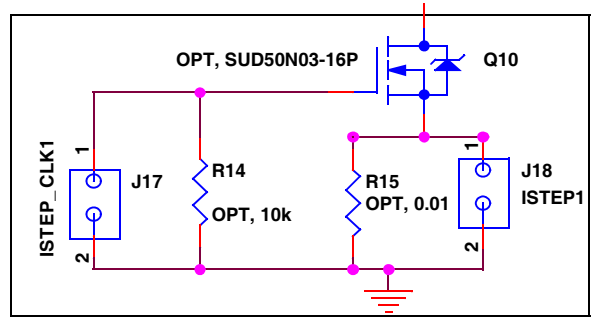

FIGURE 3. LOAD TRANSIENT CIRCUIT FOR PWM1
2. Install the load transient circuit as indicated on the schematic. Refer to Figure 3 for details.